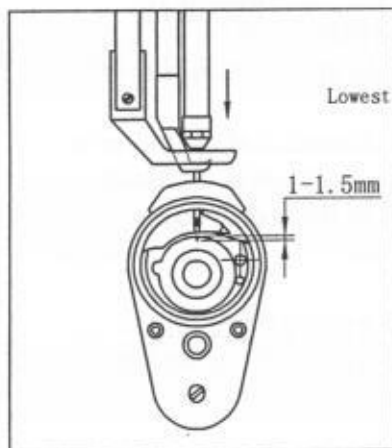

Fig. 2
(E) When the needle is in the lowest position, the tip is required to stick out 1 – 1,5 mm of the long slot of the shuttle. Such circumstances as winding or end breaking will occur if the tip sticks out too much (Fig. 2)